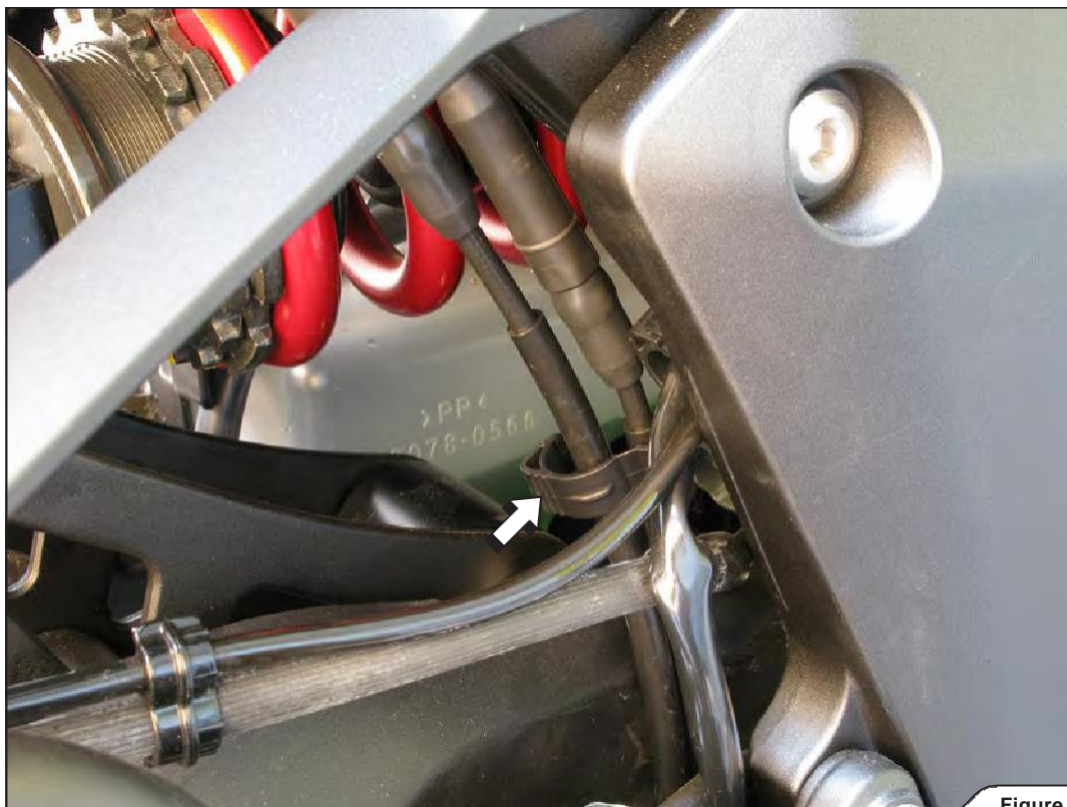

Figure 5
5. **For Z1000 model only:** undo the cables' plastic fastener and unscrew the cables' bracket (Figure 5, 6).